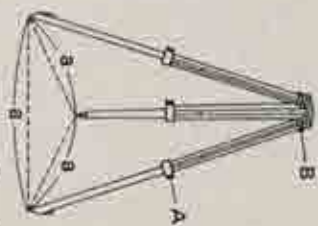
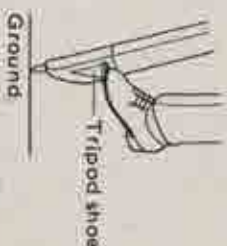
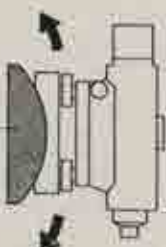

Fig. 1
Fig. 2
Fig. 3
- (1) Unbuckle the band around the tripod legs. Loosen the extension clamp screws A (Fig. 1).
- (2) Extend the tripod legs until the tripod head is roughly at eye level. Then retighten the clamp screws.
- (3) Spread the tripod legs so that the leg tips form a regular triangle on the ground.
- (4) While confirming that the tripod head is approximately level, fix the tripod shoes firmly into the ground (Fig. 2).
- (5) Tighten the wing nuts B at the tripod head.
- (6) Set the instrument on the tripod head. Insert the centring screw into the base plate, taking care to align the threads properly. Tighten the centring screw.
- (7) When using the spherical head tripod, slightly loosen the centring screw, hold the instrument in both hands, and slide it backwards and forwards across the tripod head until the bubble is approximately centred in the circular level (Fig. 3).